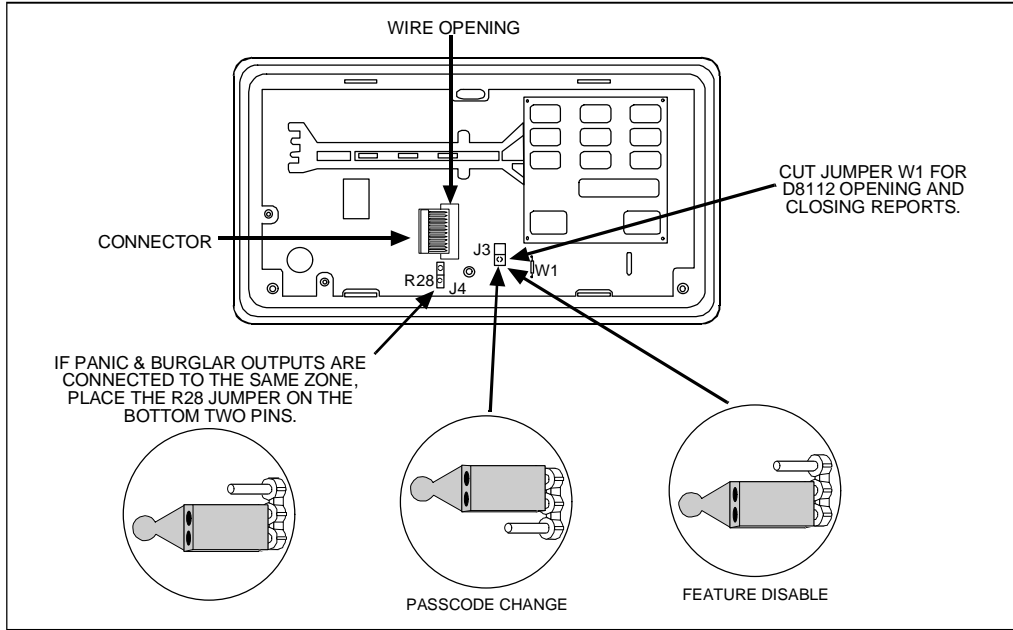

Figure 4: D279A Printed Circuit Assembly
Simultaneously pressing both asterisk buttons shorts the Panic output and initiates an alarm. Panic outputs from several D279A Independent Zone Controls can be connected to the same zone or point. If you do this, place the J4 jumper on the bottom two pins (see Figure 4). The Panic output can be connected to the same zone or point as the burglary alarm output, but if you do this, the Central Station will not be able to distinguish between panic and burglary alarms. It is recommended that you NOT wire panic and burglary alarm outputs together to zones or points programmed for opening and closing reports.
- If the **Panic** and **Burglary** outputs are connected to the same zone or point, place the J4 jumper on the bottom two pins (see Figure 4).
- If the **Panic** outputs from several Independent Zone Controls are connected to the same zone or point, place the J4 jumper on the bottom two pins (see Figure 4) on all but one D279A.
A four digit passcode is used to arm and disarm the D279A. This code can be changed only by first knowing the existing (old) passcode. Change the passcode only while the D279A is DISARMED, and BOTH protective loops are normal. If you make a mistake while programming, restart the procedure from step 2. If programming is not completed in 60 seconds, the Independent Zone Control reverts to the old passcode. As shipped, the J3 jumper plug is placed across the top two pins, which enables passcode change (see Figure 4). The passcode change feature is disabled when the jumper plug is placed across the bottom two pins.
To prevent further use of this feature, place jumper J3 across the bottom two pins (see Figure 4).
The D279A controls arming/disarming and entry/exit delay for the zone input to which it is connected. Independently controlled zones use distinctive zone codes that do not follow typical zone code programming rules. The first two digits of the zone code follow Special Zone Code programming. The last two digits follow standard programming parameters as detailed in the Zone Code Index of the *8112:MAIN Program Entry Guide*. (See the *8112:MAIN Program Entry Guide* for complete Independent Zone Control zone code programming details.) Figure 4 shows some recommended zone codes for use with the D279A.
To supervise the I.Z.C., program zone codes with 3 in the first digit position and 2 in the second digit position. The 3 2 - - code is a Special Zone Code used by the D8112 to identify a supervised I.Z.C. zone. To enable opening and closing reports from the zone controlled by the D279A, cut the jumper (a violet colored jumper, see Figure 4) located on the D279A. The D279A burglary output will go from open to normal (1K) when the control is armed (closed).
Programming the D279A as a priority zone enables two valuable functions. When the zone code for the D279A is programmed with a 3, 4, 7, or 8 in the fourth digit position, the I.Z.C. zone must be armed before the system can be master armed. However, once the D8112 is armed, the D279A may be armed and disarmed. In addition, priority zone programming provides for an arm/disarm status display at the command center for the I.Z.C. zone. Pressing any key displays the disarmed priority zone as a faulted zone. Cut jumper W1 to enable the priority zone feature (W1 is a violet colored jumper, see Figure 4).
To supervise the I.Z.C., program the point code as 70000. To enable opening and closing reports from the zone controlled by the D279A, cut the jumper labeled W1 OPEN/CLOSE (a violet colored jumper, see Figure 4) located on the D279A. The D279 sounds audible alarms when the 70000 point code is used.